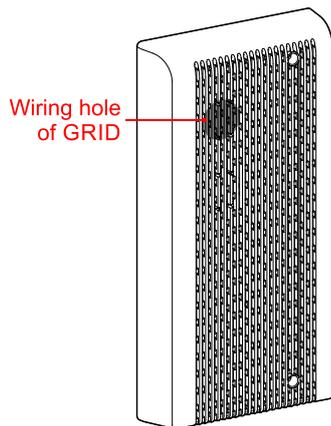

Figure3-38 Knock down hole of GRID
- If the grid connection adopts multi-core wires, the wiring must go through the side panel. So, it is necessary to knock-off the wiring hole of grid on the decoration panel, as shown in Figure3-38.
- If the grid connection adopts the single-core wires, the wiring can go through side or back. When wiring from side, the wiring holes also needs to be knock off, as shown in Figure3-38.